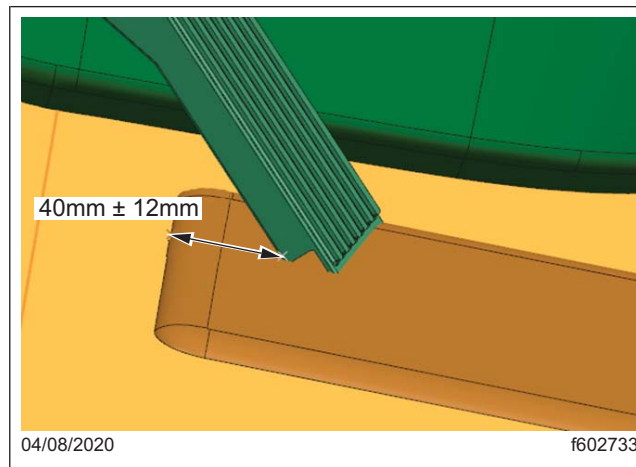

Fig. 1, Distance Between the Top Edge of Wear Pad to the Closest Edge of the Throttle Pedal
- See Fig. 1 to determine the distance between top edge of the wear pad to the closest edge of the throttle pedal.